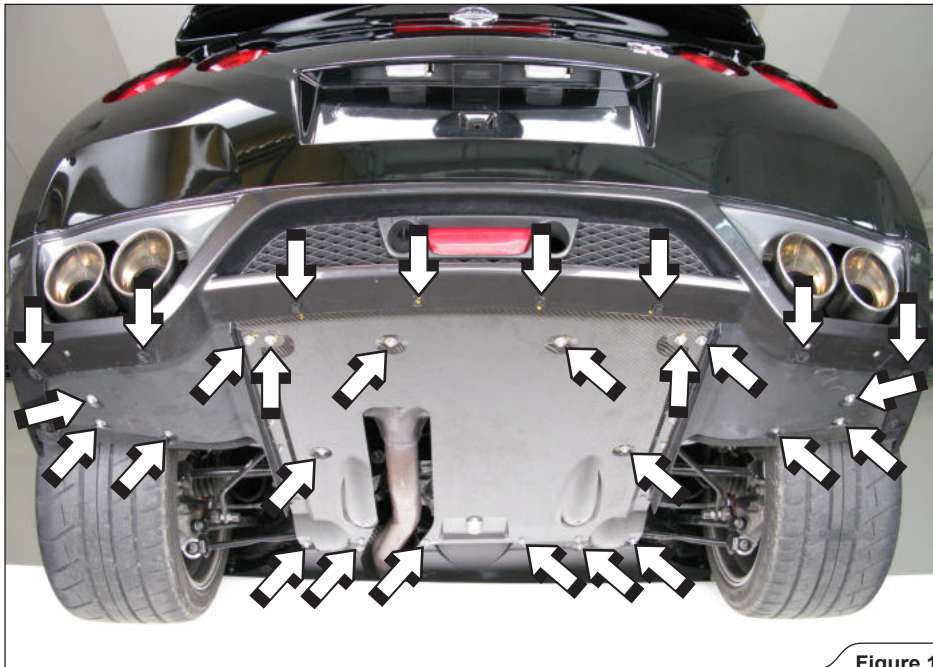

Figure 1
1. **For Slip-On and Evolution:** unscrew the bolts, undo the plastic fasteners and remove the panels off the vehicle (**Figure 1, 2**).
! **IMPORTANT:** for facelift GT-R models only: make sure, that you disconnect the rear fog light connector, before removing the rear underbody panel (Figure 1)!